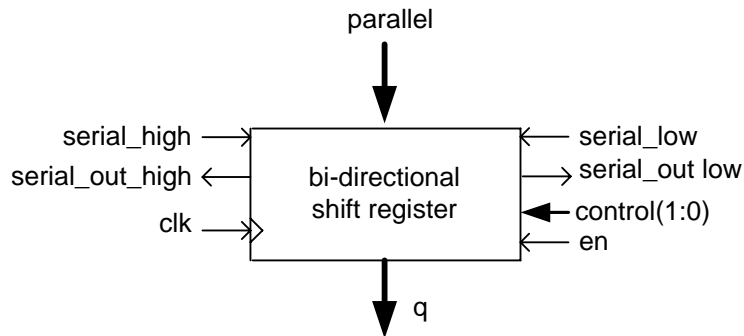

Figure 4 Bi-directional shift register with serial in and out
3.2 (optional) add to circuit of 2.2 an enable signal, both serial out (serial_high_out, serial_low_out) and asynchronous reset like in figure 4.